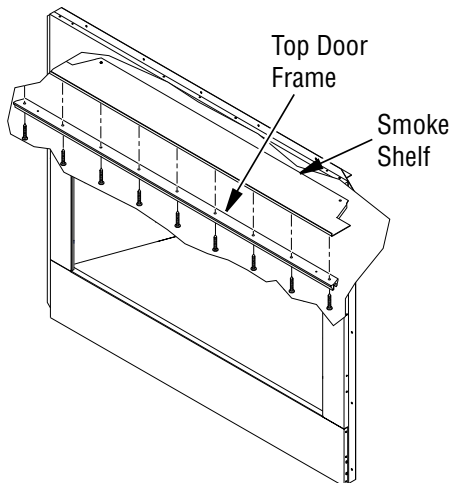

Figure 36 - Installing Top Door Frame
1. Remove screws from smoke shelf (see Figure 36).
2. Mount top door frame and secure with screws removed in step 1 (see Figure 36).